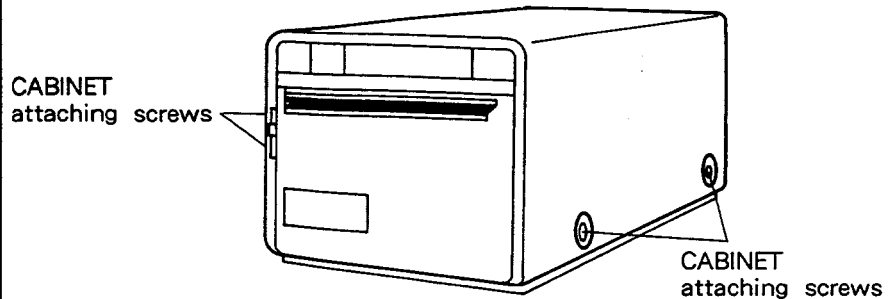

Fig. 1
1. Remove four screws securing the CABINET. (Fig.1)
1. Remove the CABINET. (Fig. 1)